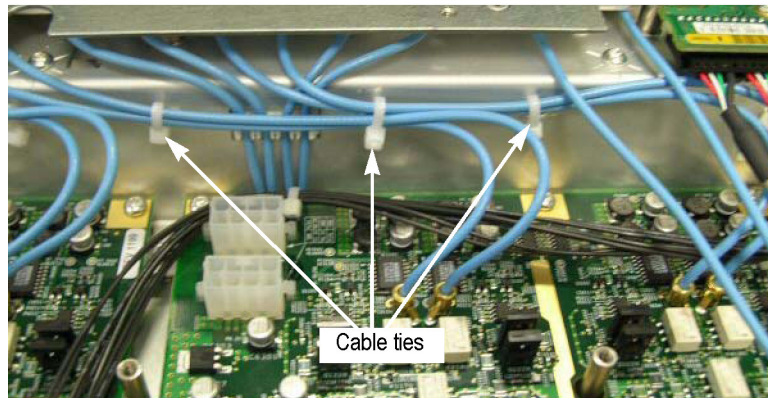

Figure 23: Location of the cable ties
3. Use a wire cutter to remove the three cable ties. (See Figure 23.)